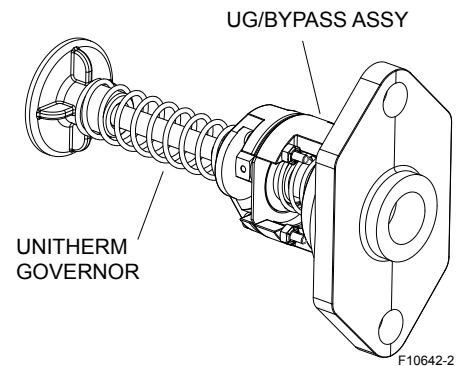

Figure 51. Unitherm Governor/Bypass Valve Assy
3. Remove UG/Bypass Valve Assy located on the right side of the header. See **Figure 51**.